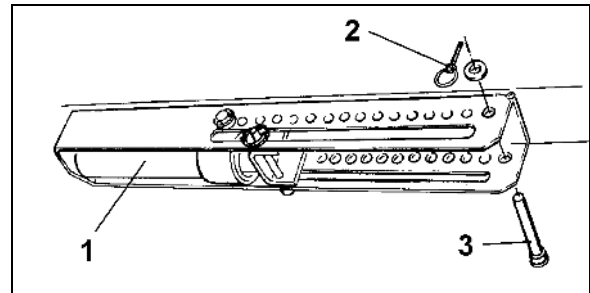

Fig. 82
1. Relieve the hydraulic ram (Fig. 82/1) from pressure .
2. Insert the pin (Fig. 82/3) into one of the holes of the quadrant plate and secure by using a clip pin (Fig. 82/2).